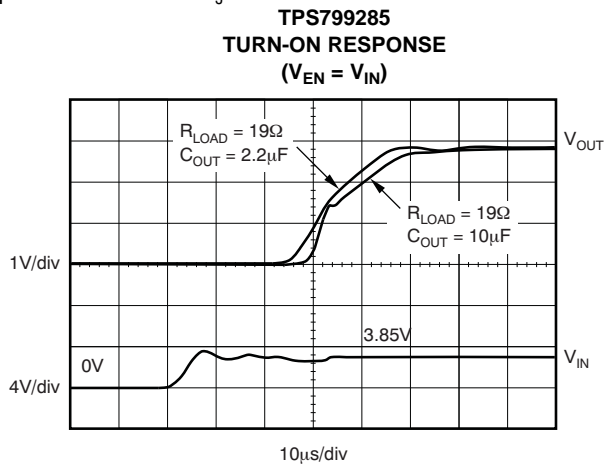
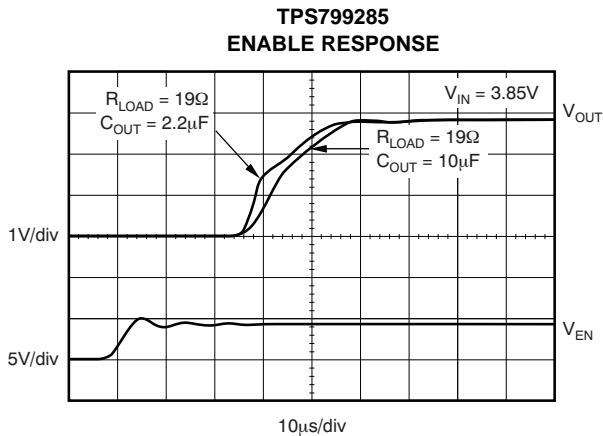

Figure 25.
Figure 26.
Note that for fastest startup,  $V_{\text{IN}}$  should be applied first, then the enable pin (EN) driven high. If EN is tied to IN, startup will be somewhat slower. Refer to Figure 25 and Figure 26 in the *Typical Characteristics* section. The quick-start switch is closed for approximately  $135\mu\text{s}$ . To ensure that  $C_{NR}$  is fully charged during the quick-start time, a  $0.01\mu\text{F}$  or smaller capacitor should be used.